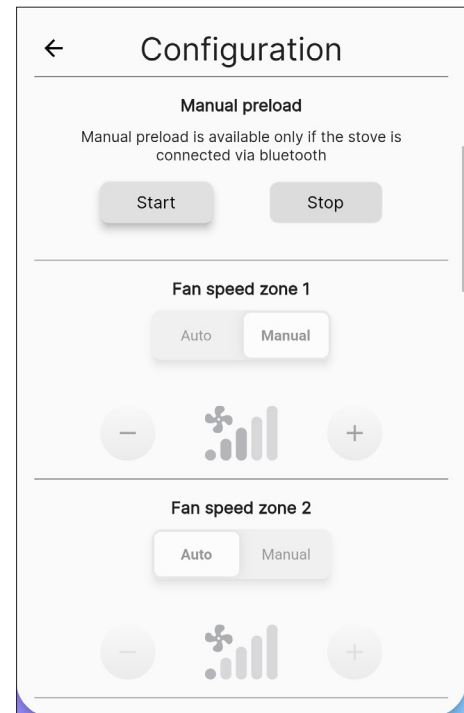
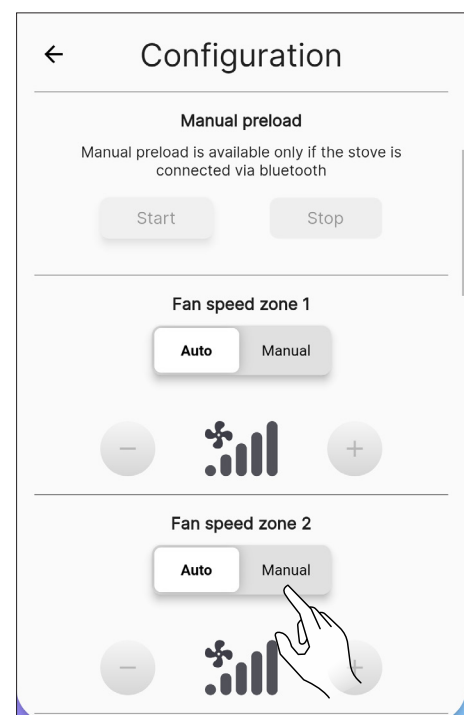

Fig. 10.15
Fig. 10.16
**i** This function can only be used when the stove is on and the optional ducting kit is fitted (Fig. 10.16), otherwise it cannot be changed (Fig. 10.15). You can choose between manual or automatic operation. If manual operation is chosen, the fan speed can be changed. The settable values range from 1 (min) to 5 (max). Set the speed by pressing the icons + or -.
This function can only be used with the stove on (Fig. 10.16), otherwise it cannot be changed (Fig. 10.15).